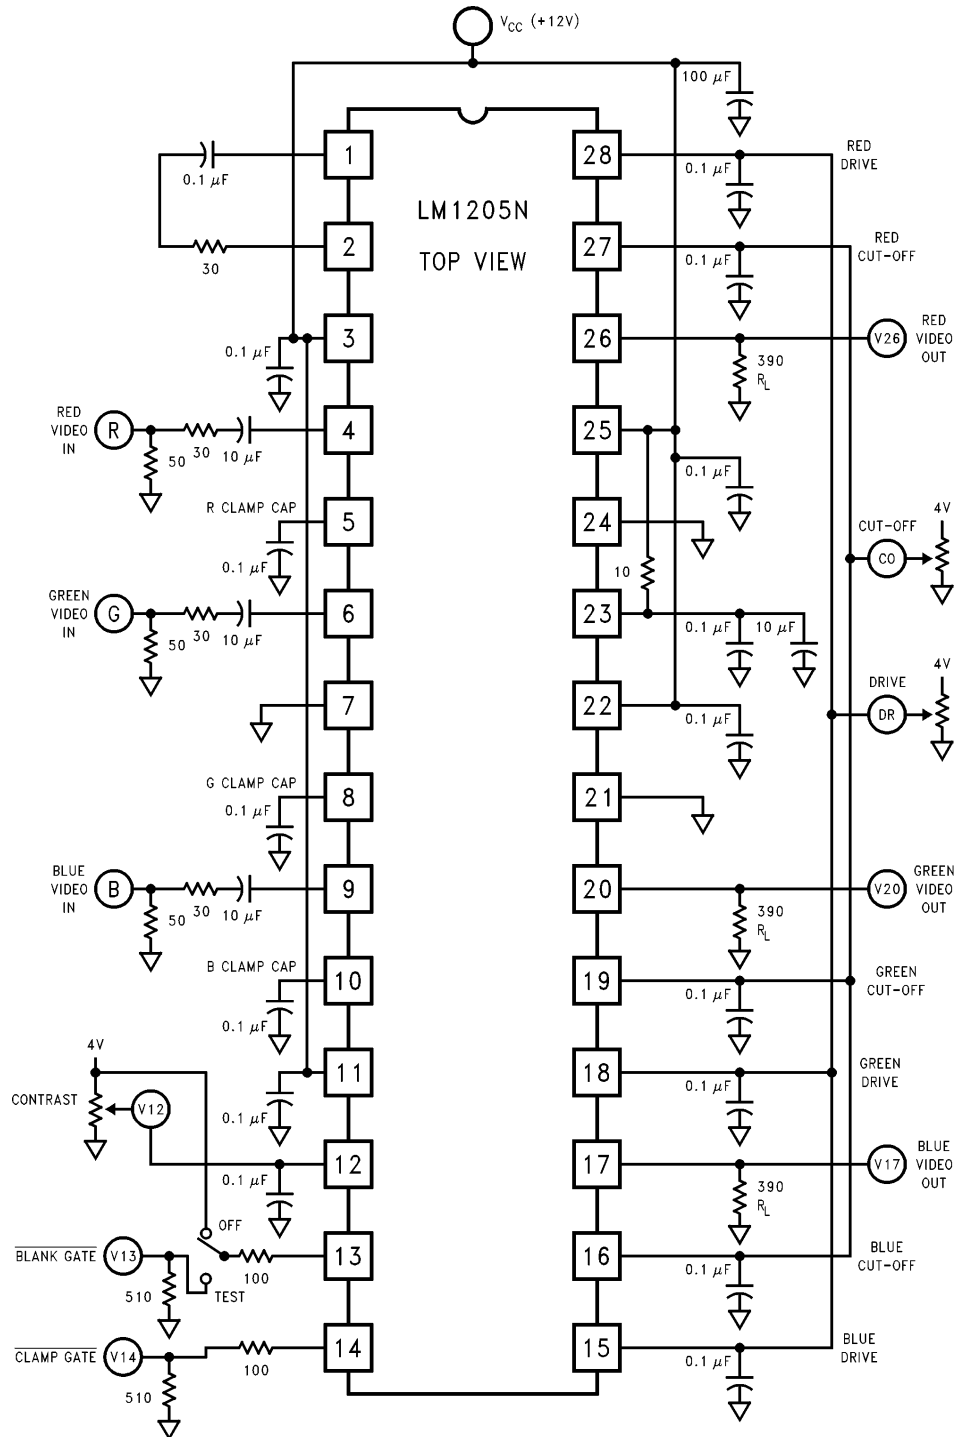

FIGURE 2. LM1205N DC Test Circuit
**DC Electrical Characteristics** See DC Test Circuit (Figure 2),  $T_A = 25^\circ\text{C}$ ;  $V_{CC1} = V_{CC2} = 12V$ ,  $V_{12} = 4V$ ;  $V_{14} = 0V$ ;  $V_{\text{cut-off}} = 1.0V$ ;  $V_{13} = 4V$ ;  $V_{\text{drive}} = 4V$  unless otherwise stated.
**Note 7:** The supply current specified is the quiescent current for  $V_{CC1}$  and  $V_{CC2}$  with  $R_L = \infty$ , see *Figure 2's* test circuit. The supply current for  $V_{CC2}$  (pin 23) also depends on the output load. With video output at 1V DC, the additional current through  $V_{CC2}$  is 8 mA for *Figure 2's* test circuit.